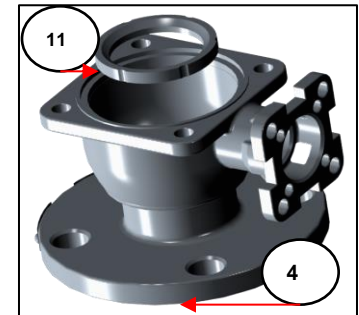

Figure 4-22
4.4.3 Wipe down one of the ball seats (item 11) and then place it into the bottom seat of the valve body (item 4), flat side downward. Be very careful to avoid damaging the seat during installation. (Figure 4-22)